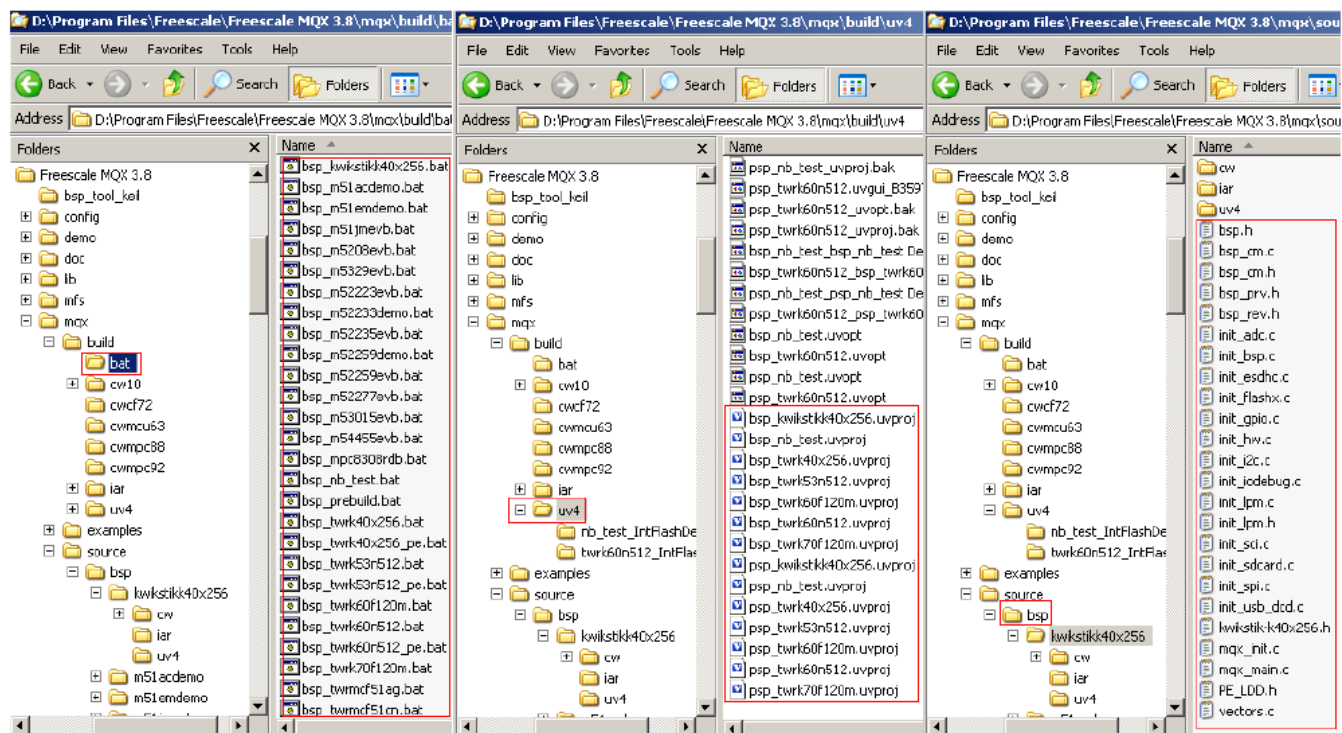

Figure 4. mqx folder and its subfolders
- **mqx:** In this folder, there are three important subfolders. See Figure 4.